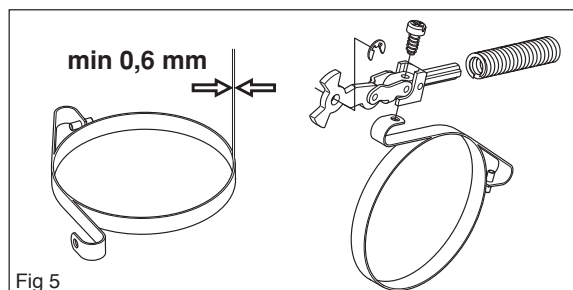
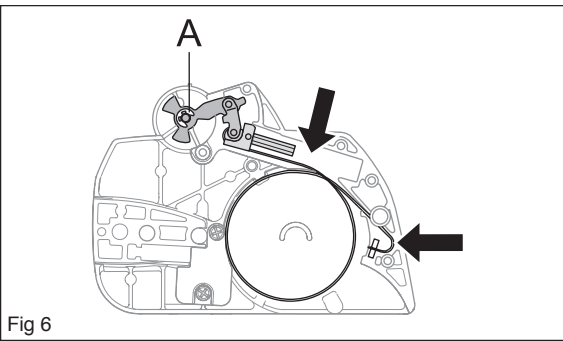

Fig 5
Fig 6
- Measure the thickness of the chain brake band. It must not be less than 0.6 mm at any point. (see figure 5)
Bolt the elbow joint to the brake band (see figure 5) and tighten to a torque of 1–1.5 Nm. Locate the elbow joint and connected brake band in their recesses in the clutch cover. Lubricate the recess for the spring with grease (see figure 6).
Secure the circlip (A) (see figure 6).